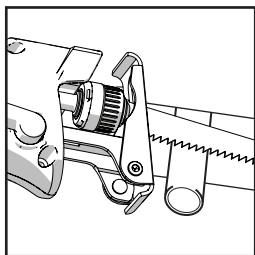

Fig. 11
- Cut through the workpiece slowly allowing the flexible blade to curve as required. **(Fig. 11).**